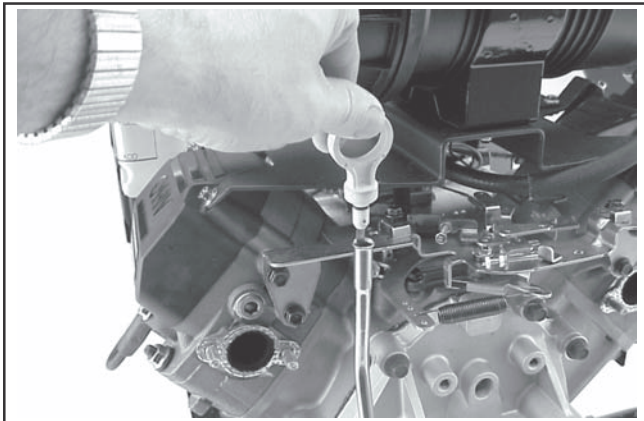

Figure 6. Checking Oil Level.
3. Remove the dipstick; wipe oil off. Reinsert the dipstick into the tube and press all the way down. See Figure 6.